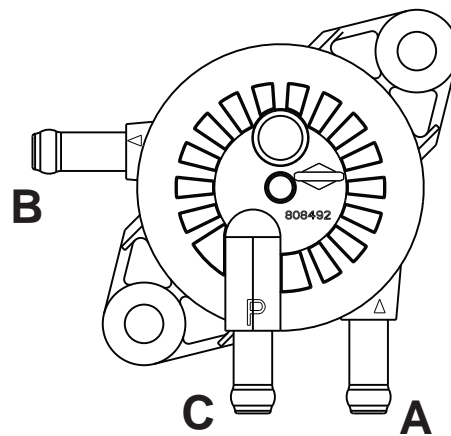

Figure 5-5 Mechanical Diaphragm Fuel Pump.
1. Squeeze hose clip at fuel inlet port (A) and remove hose from fuel filter. See Figure 5-5.
2. Squeeze hose clip at fuel outlet port (B) and remove hose to fuel pump module.
3. Gently pull crankcase vacuum hose from pulse line fitting (C).